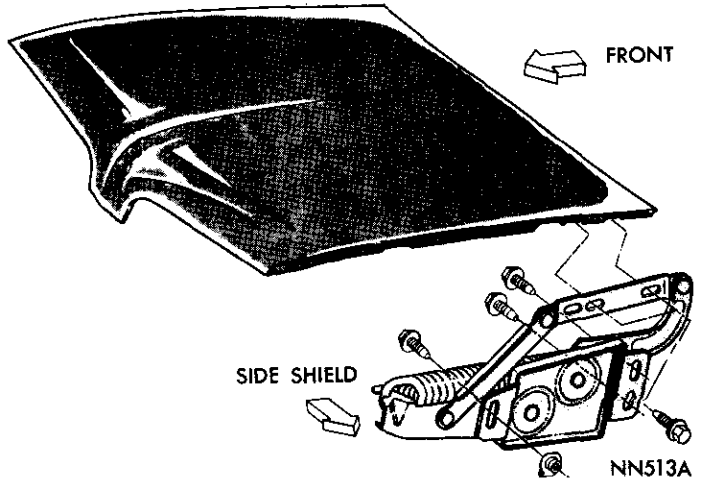

Fig. 6—Hood Adjustment
- (1) Place a protective covering over cowl and fender area.
- (2) Mark outline of hinges (Fig. 6) on hood to aid in installation.
- (3) With an assistant, remove hinge-to-hood bolts and remove hood assembly. **Use care not to permit hood to slide rearward and damage painted surfaces of the cowl and fender areas.**
- (1) With an assistant, position hood on hinges and install bolts. Do not tighten.
- (2) Align scribe markings on hood with hinge and tighten screws to hold in position.
- (3) Close hood and inspect alignment.
- (4) Adjust alignment (Figs. 6 and 7) tighten bolts 180 inch-pounds and remove protective coverings.
The hood hinge (Fig. 6) is attached to the hood and the fender splash shield. Prior to removing hinge screws, prop hood in the wide open position. The prop should be positioned so hood cannot move rearward.